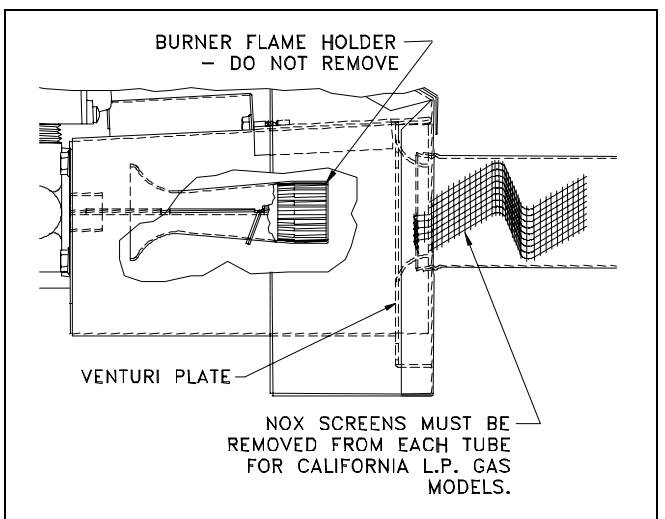

Figure 28. California NOx Screen Removal.
**WARNING:** Propane (LP) gas installations do not have gas meters to double check input rate. Measure manifold pressure with an accurate manometer. Failure to accurately adjust pressure could cause heat exchanger failure, asphyxiation, fire or explosion, resulting in damage, injury or death.
2. Gas supply pressure must be between 11 and 13 inches W.C. for propane (LP) gas. See Section 15, "Gas Supply Pressure Adjustment."
**WARNING:** Do not set Propane (LP) manifold pressure at 11.0 inches W.C. It could cause heat exchanger failure.
NOTE: NOx reducing screens must be removed from each tube of California NOx furnaces when converting to propane (LP) gas. See Figure 28.